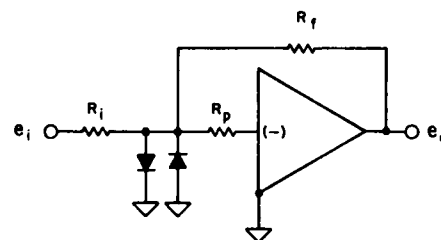

FIGURE 11- OVERLOAD CURRENT LIMITING
3. If the input resistor,  $R_i$ , does not adequately limit overload current, an additional stage of silicon diode limiting may be employed as in figure 11 (two diodes in series may be required,  $R_p$  can be about 100 to 200 $\Omega$ ).